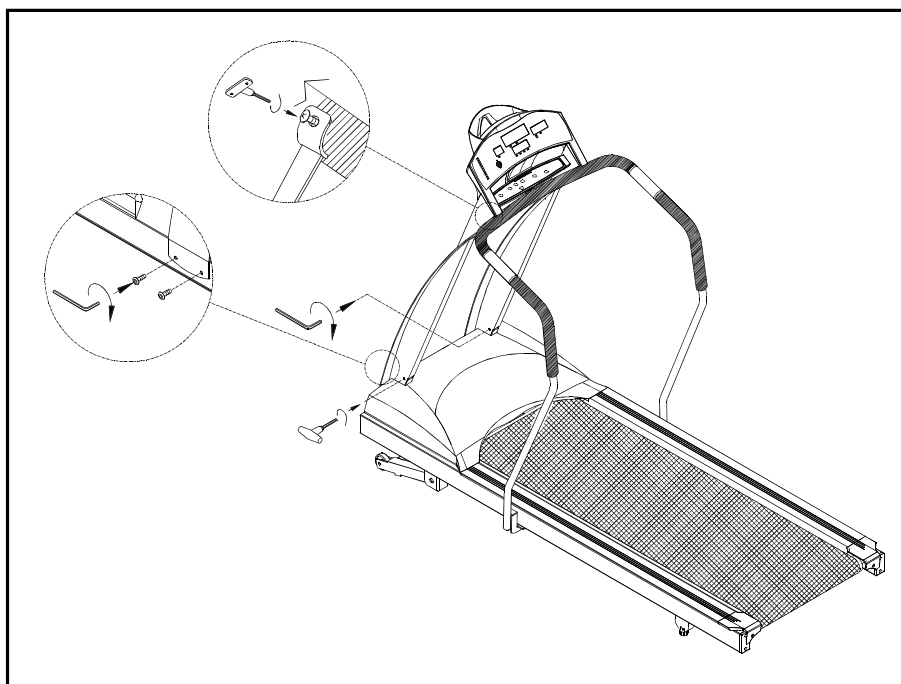

Fig.8
10. Secure the screws in front of the lift posts and handlebar tightly, Secure the screws to the lift posts tightly (see Fig. 8).